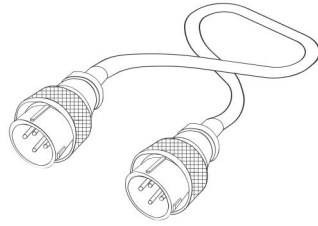

Figure 2-4
- Robotic Arm Power Supply Cable (Figure 2-4)